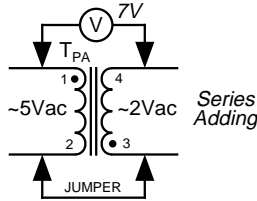

Figure 10. Flyback Transformer
1. Check the voltage at the flyback transformer across pins 1 and 2 and pins 3 and 4. See Figure 10.